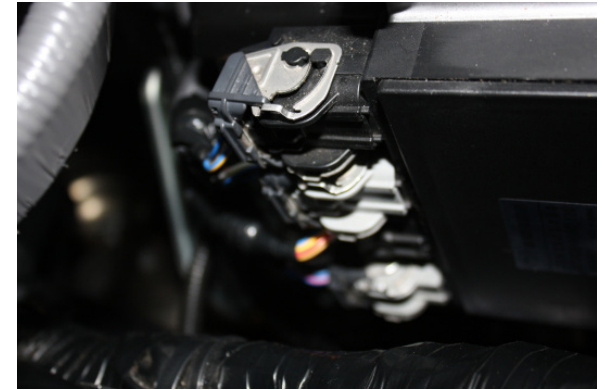

Fig. 11A
- B. Unplug connectors from the ECU. See Fig. 11A